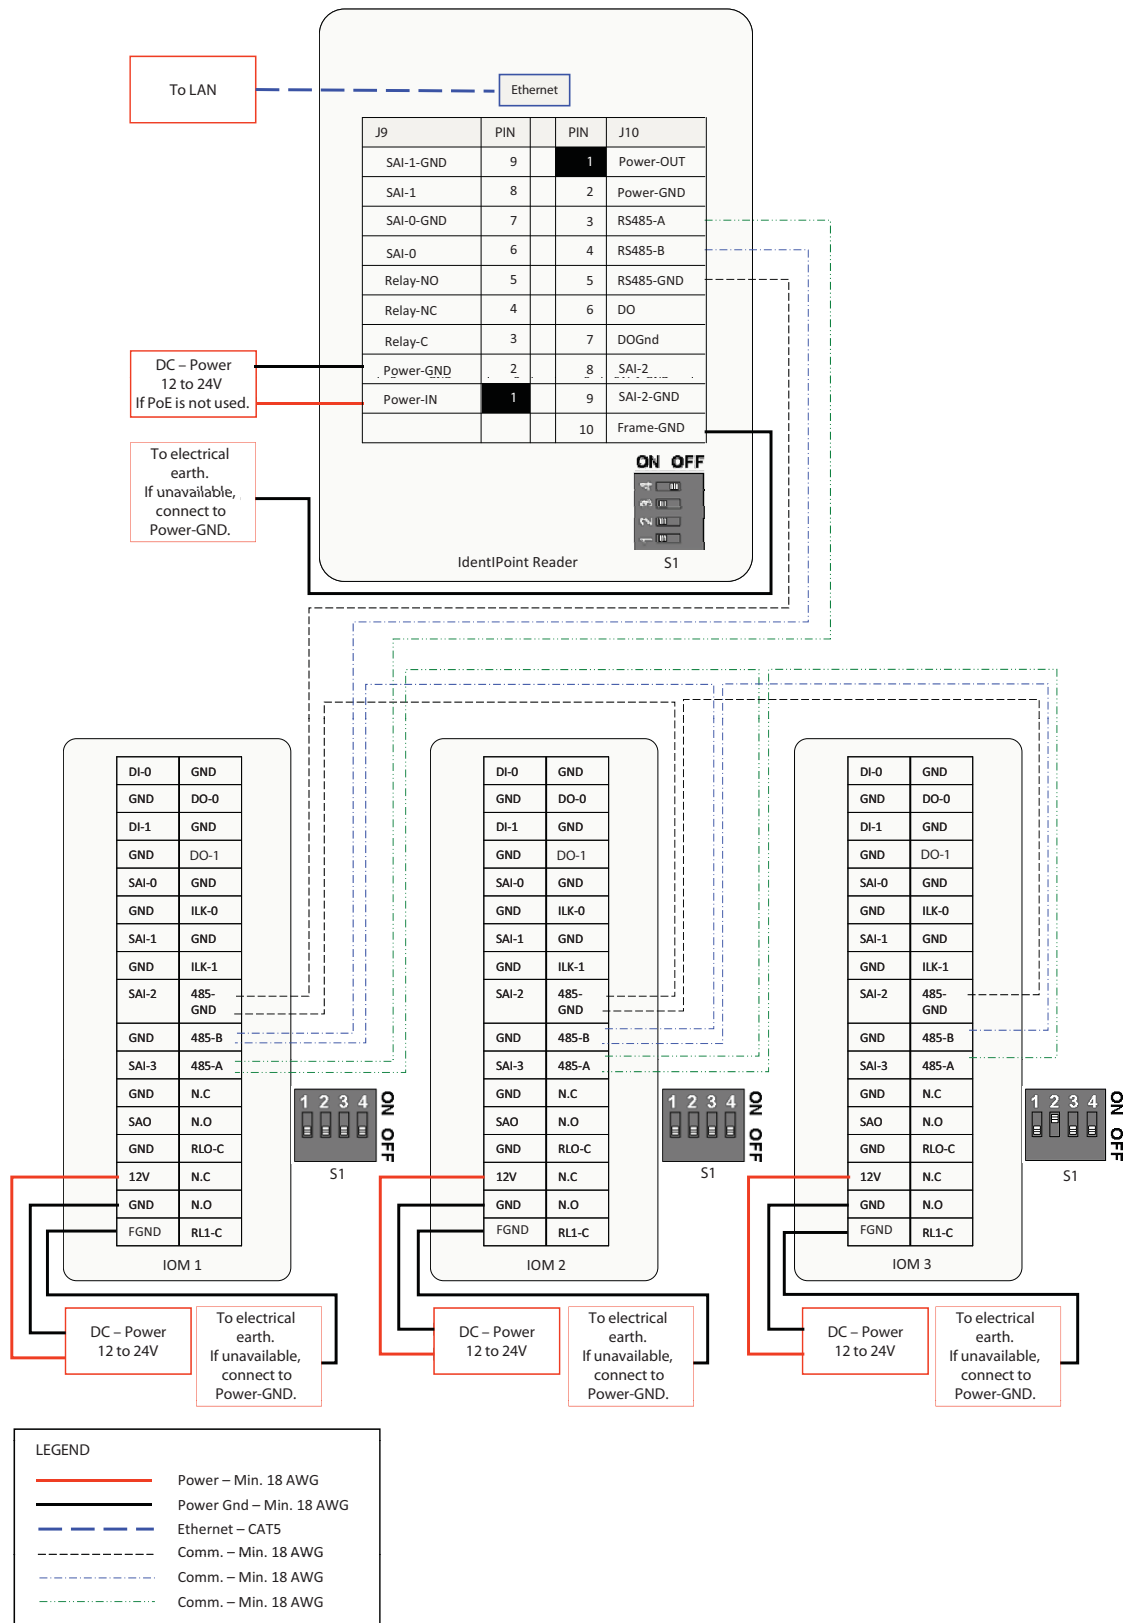

Fig. 24. Connections for reader with three IOMs on a RS485 bus (S1 DIP switch settings shown)
- Although, Fig. 24 shows separate power supplies for all the devices, it is also possible to provide them power from a single power source as long as it delivers the required power for all devices.